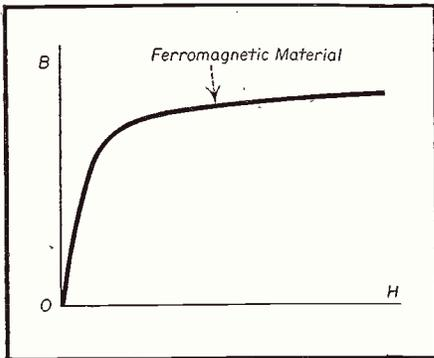

Fig. 1. Typical saturation curve.
It has been found that, for low densities of saturation, the resultant flux (B) is proportional to the magnetizing force (H) (See Fig. 1) but, that beyond a certain point the flux density increases only slightly despite a very large increase in magnetomotive force. There is a *magnetic saturation point* for any material beyond which it cannot be further magnetized.